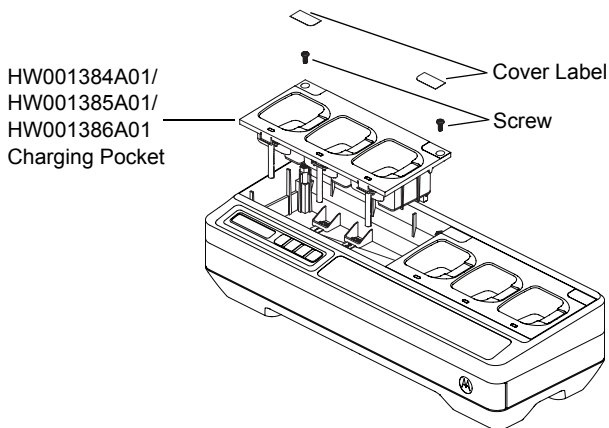
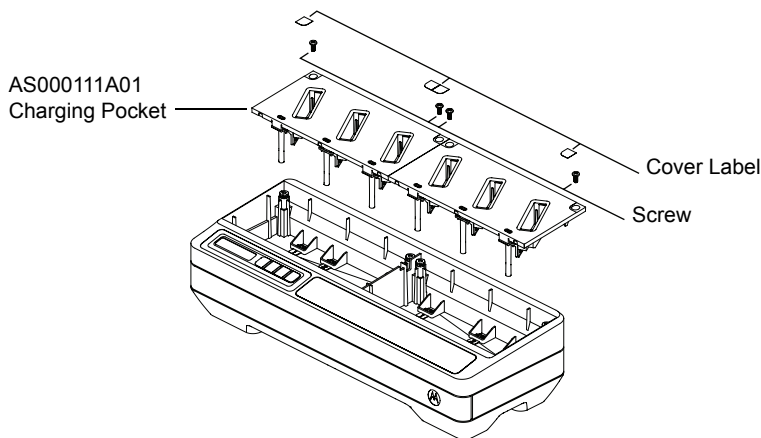

Figure 24: Installing and Removing HW001384A01/HW001385A01/
Figure 25: Installing and Removing AS000111A01 Charging Pocket
4. Remove the Pocket Harness by pulling straight up on the connector (Refer to Figure 24 and Figure 25).